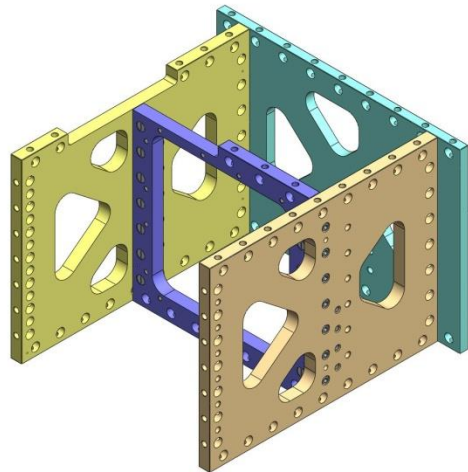

Figure 3.22. Step 2 of Boxwork Assembly. Center-Tangential Rib is placed against the Radial Ribs.
- Push **Rib, Tan, Flexure Cen** plate (D071070) onto ends of the two **Radial Ribs** (D071068 and D071069), as shown in Figure 3.22. Make sure pins seat properly into mating holes and slots.